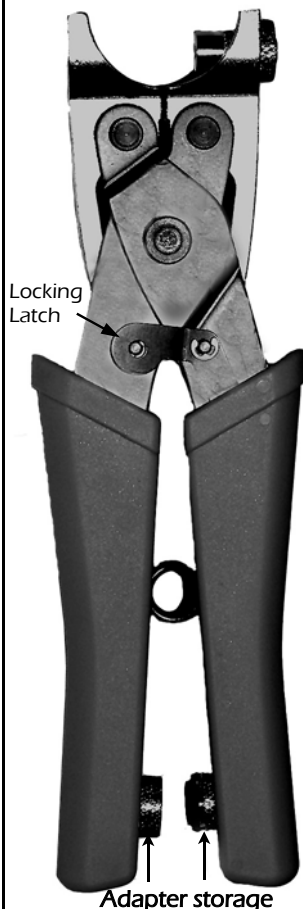

Figure 2
- Adapter mounting:** Mount adapter in threaded hole in tool jaw (see Figure 2 & 3). Locking nut should be tight to bottom of tool jaw to prevent damage to adapter.